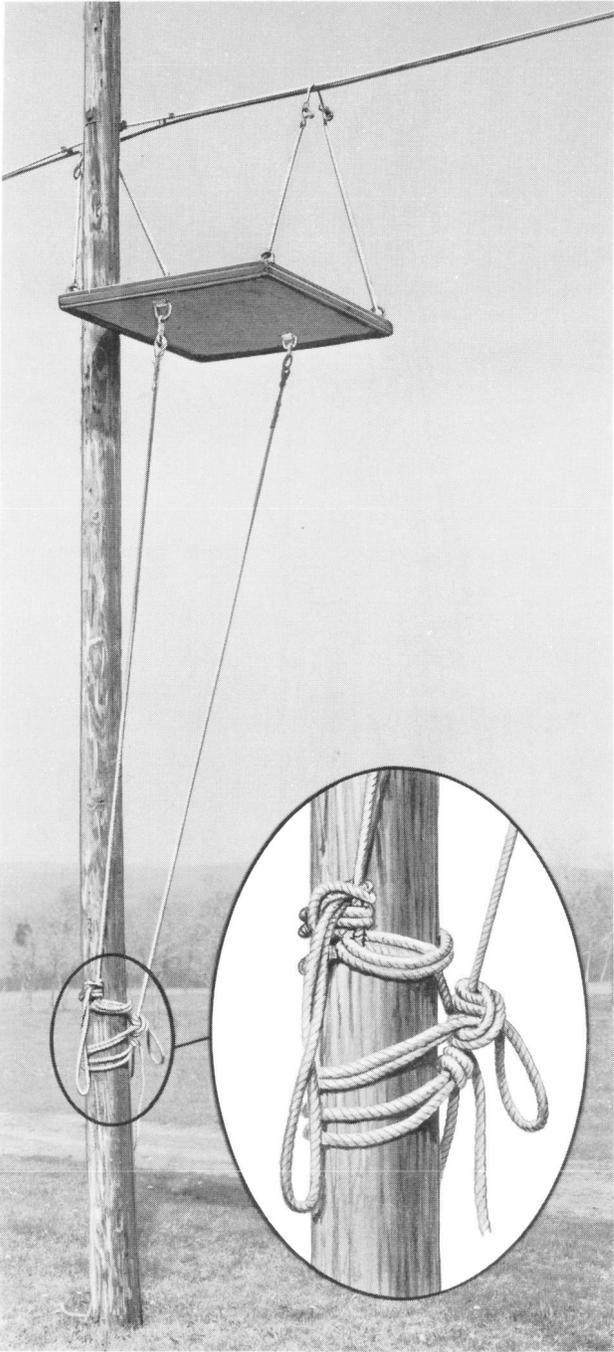

Fig. 13—Platform With Guy Ropes Tied To Pole
- (6) Pass the right-hand guy rope around the opposite ladder rail or beneath the first tie on the pole. This rope must be snubbed in the opposite direction from the first rope.
- (7) Hold the standing end in the right hand. Pass the free end around the pole or ladder rail and over the standing end.
- (8) Complete the tie as before, keeping clear of pole steps.
- (9) If the guy rope is too long for convenient handling, double the rope and proceed as outlined in 4.06 (d) (1). Fig. 13 illustrates the platform suspended and the guy ropes tied with the end of the rope doubled.